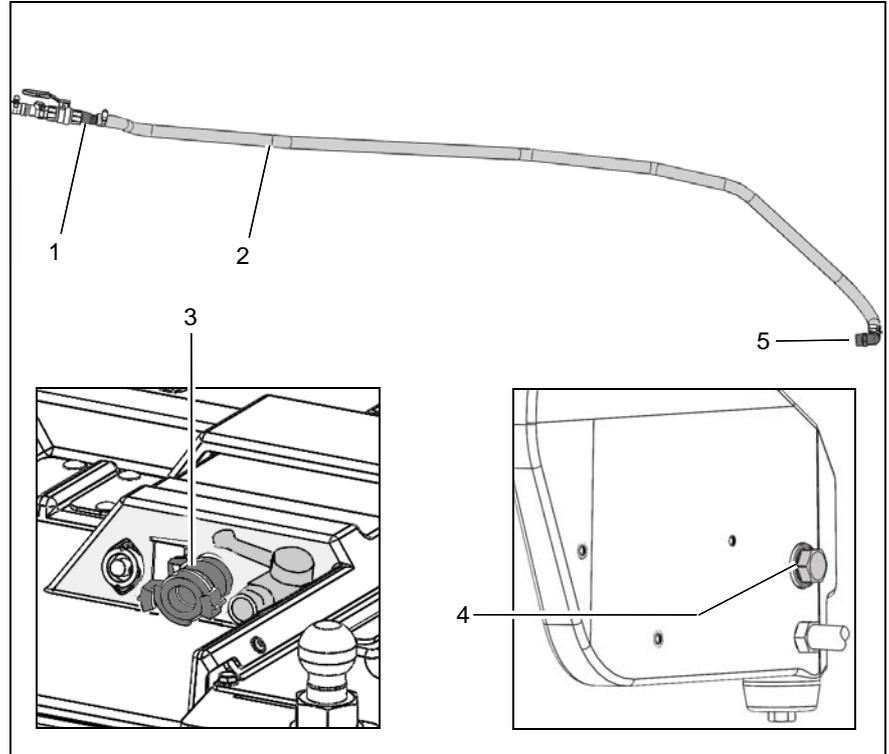

Fig.5
1. Fit the fresh water hose (Fig. 5/2) onto the screw-in nozzle (Fig. 5/1) and secure it with a hose clamp.
2. Run the fresh water hose along the circulating water hose (Fig. 5/3).
3. Remove the screw cap (Fig. 5/4) of the fresh water tank (front right tyre) and fit the screw-in nozzle (Fig. 5/5).
4. Fit the fresh water hose onto the screw-in nozzle (Fig. 5/5) and secure it with a hose clamp.